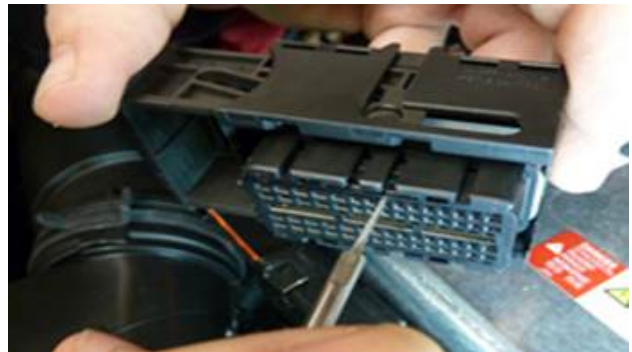

Figure 5. Removing the seal pin.
3. Use VAS 1978/35-2 to remove the seal pin from pin 39 (Figure 5).